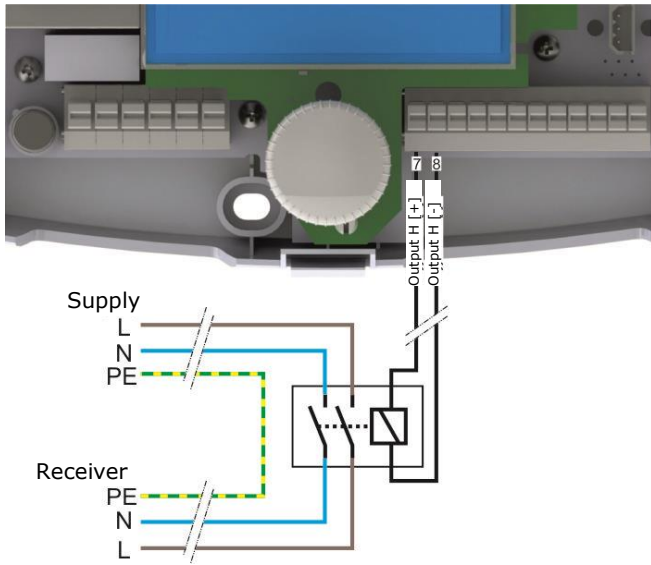

Fig. 16.10 Connection of relay to H output.
For a heater connection, use relay connected as shown in Fig. 16.10. Wire that connects the controller and transmitter must not have resistance bigger than 1Ω (see Table of wire lengths and resistances in the section on wire length compensation 19.2.1).
- 1. Unipolarly with return spring:** such valve connect to **H** output of the controller through a relay, like in Fig. 16.10